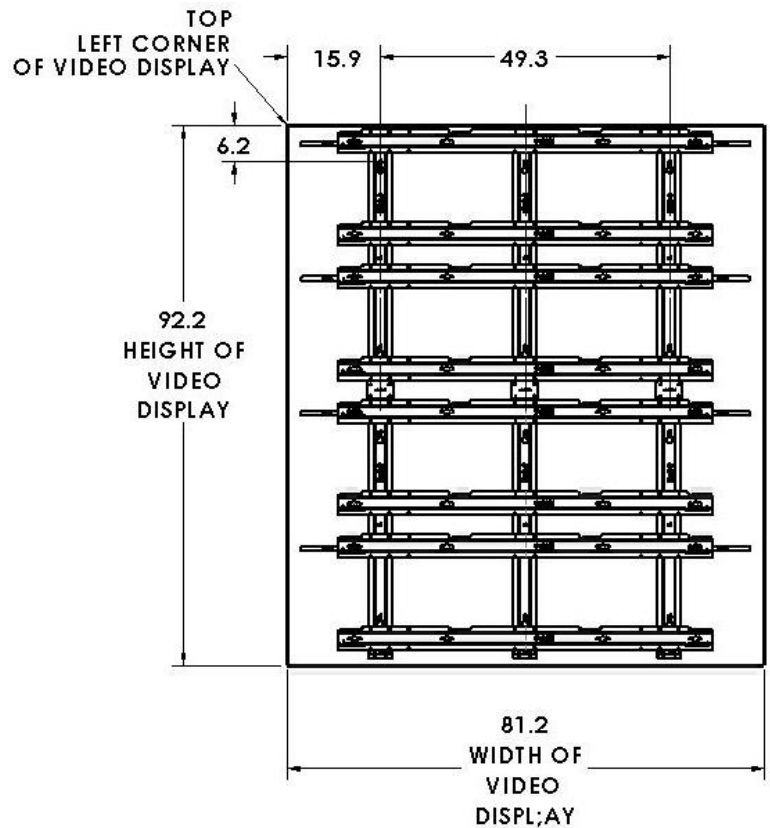
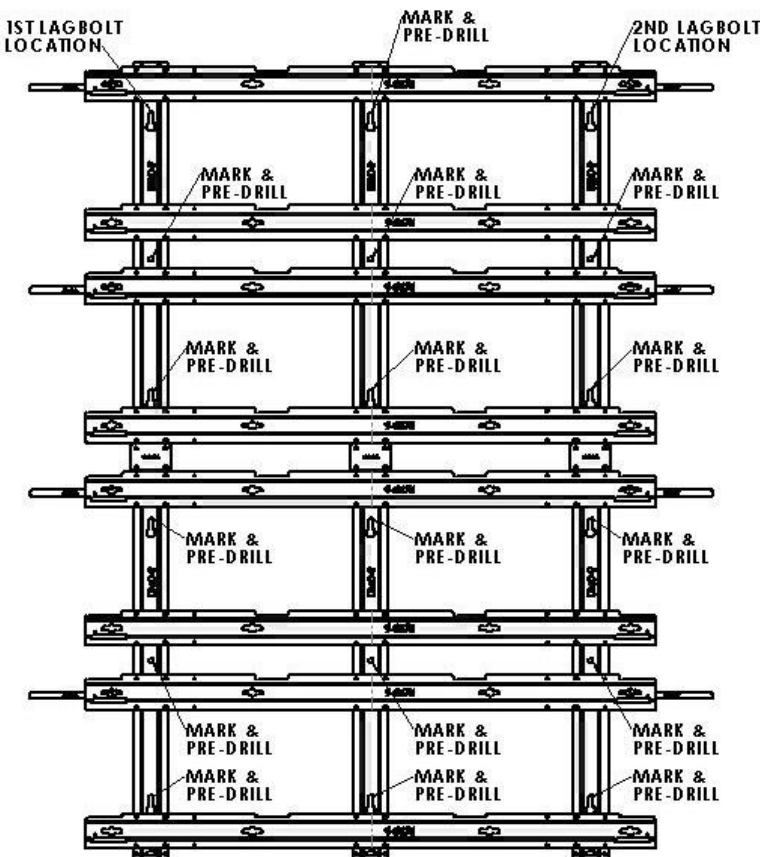
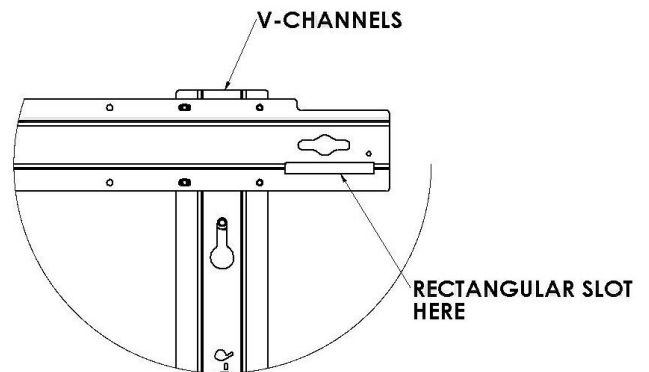

Figure 1
Figure 2
Figure 4
Scribe a horizontal line on the wall showing the exact location of where the top edge corner of the upper left monitor will be. Measure down 6.2" (157.5mm) from that line and scribe another horizontal line showing where the horizontal location of the first adjustable lag bolt will be (**Figure 1**).
Scribe a vertical line showing where the top left side of the upper monitor will be. Measure to the right 15.9" (403.9mm) and scribe another vertical line showing where the vertical location of the first adjustable lag bolts (**Figure 1**). Mark the intersection of the vertical and horizontal lines.
Measure 49.3" (1252.2mm) to the right for the location of the second adjustable lag bolt. Use a long level to make sure the second location is horizontally aligned and leveled to the first lag bolt location (**Figure 1**). Mark the second lag bolt location.
Use the frame as a template to mark the other locations of the adjustable lag bolts (18 plcs). Use three (3) per V-channel, two keyholes and the center hole (**Figure 2**).
Loosen and remove the hex nut and flat washer securing the frame to the wall then place the frame back on the floor. Pre-drill marked holes using the 3/16" or 5mm drill bit then install the other adjustable lag bolts until the hex part of the bolt is flush to the wall (**Figure 2**).
Place all of the parts in figure 1 on the floor. Start with three 9-0678 2X V-channels with their open side facing up and with the narrow part of the key holes slots facing up in all in the same direction.
Place four 9-0676 H-Slats over the 2X V-channels with the keyhole surface facing up and the four-hole patterns lining up with that of the V-channels (**Figure 1**). Rectangular slots in the ends of the H-slats should be at the outer edge of the frame. (**See figure 4**).
Place all of the parts in figure 2 on the floor. Start with three 9-0640 2X Lower V-channels with their open side facing up with the narrow part of the key holes slots facing up and all in the same direction. Place four 9-0676 2X H-Slats over the 4X lower V-channels with the keyhole surface facing up and the four-hole patterns lining up with that of the channels (**Figure 2**). Rectangular slots in the ends of the slats should be at the outer edge of the frame. (**See figure 4**).
Upper Frame (Figure 1)
Lower Frame (Figure 2)